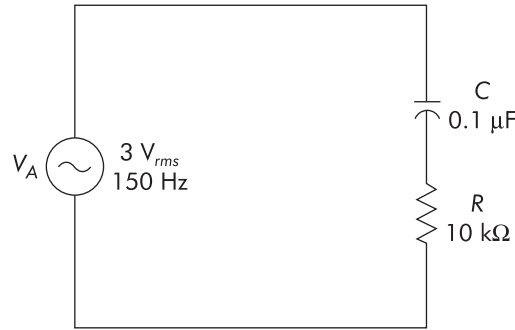

FIGURE 51-1
1. Connect the initial circuit as shown in Figure 51-1.